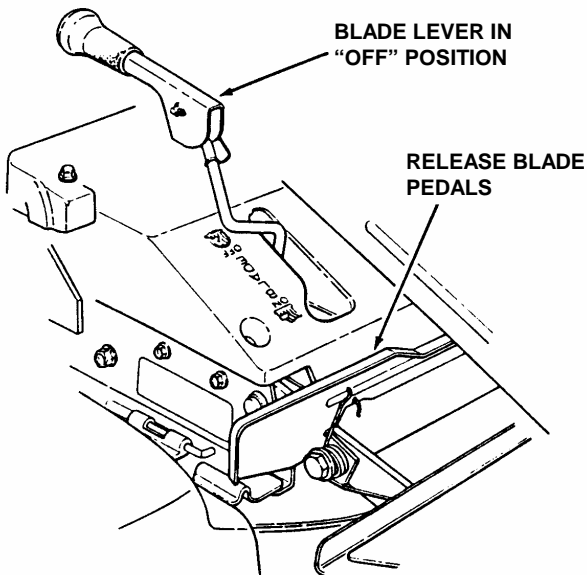
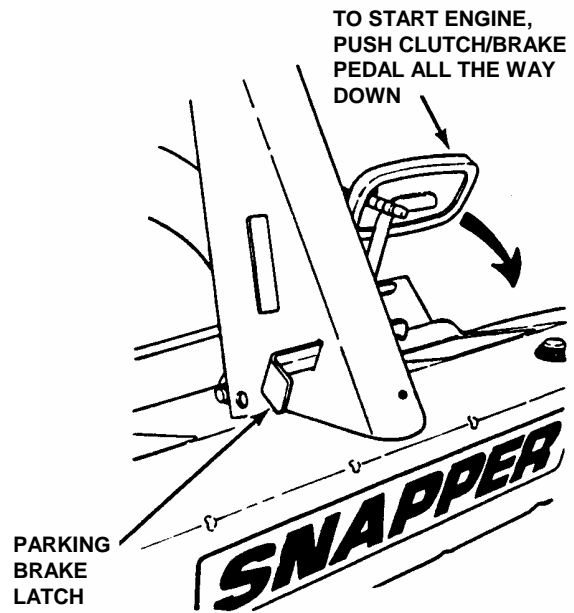
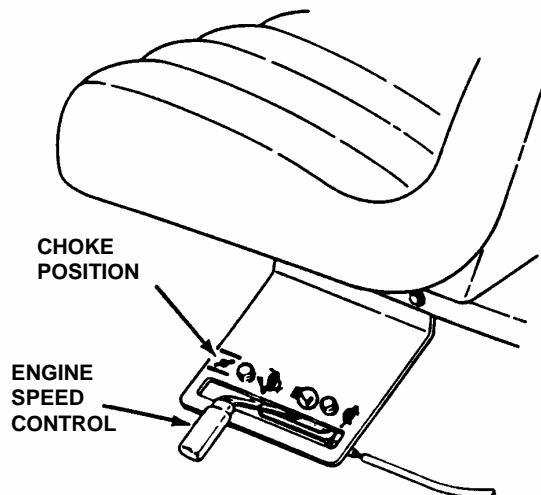
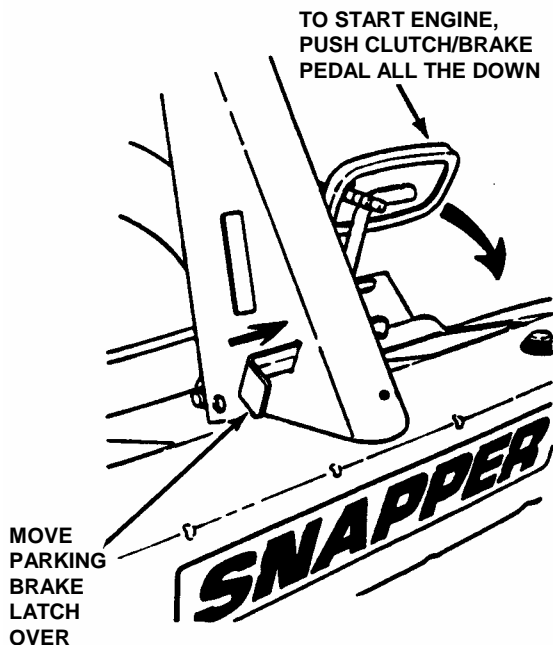

FIGURE 2.4
FIGURE 2.5
FIGURE 2.6
FIGURE 2.8
**IMPORTANT:** When the ignition key is turned to "START", the engine will turn over, but will not start unless the Clutch/Brake pedal is pressed all the way down, the Blade Lever is in the "Off" position (See Figure 2.5). The operator should be in the seat. Start engine as follows:
1. Move transmission shift lever to (N) Neutral position. **DO NOT** start engine with transmission shift lever in a drive position.
2. Make certain the Blade Lever is in the "Off" position. See Figure 2.4.
3. Press Clutch/Brake Pedal all the way down and hold while starting engine. See Figure 2.5.
5. Move engine speed control to the choke position. See Figure 2.6.
**IMPORTANT:** When the ignition key is turned to "ON", and the recoil handle is pulled, the engine will turn over, but will not start unless the Clutch/Brake Pedal is pressed all the way down with Parking Brake engaged (See Figure 2.8) and the Blade Lever is in the "Off" position (See Figure 2.4). Start engine as follows:
1. Move transmission shift lever to (N) Neutral position. DO NOT start engine with transmission shift lever in a drive position.
5. Move engine speed control to the choke position to start a cold engine. See Figure 2.6.
3. Press Clutch/Brake Pedal all the way down, move Parking Brake Latch over and release the Clutch/Brake Pedal to set Parking Brake. See Figure 2.8.